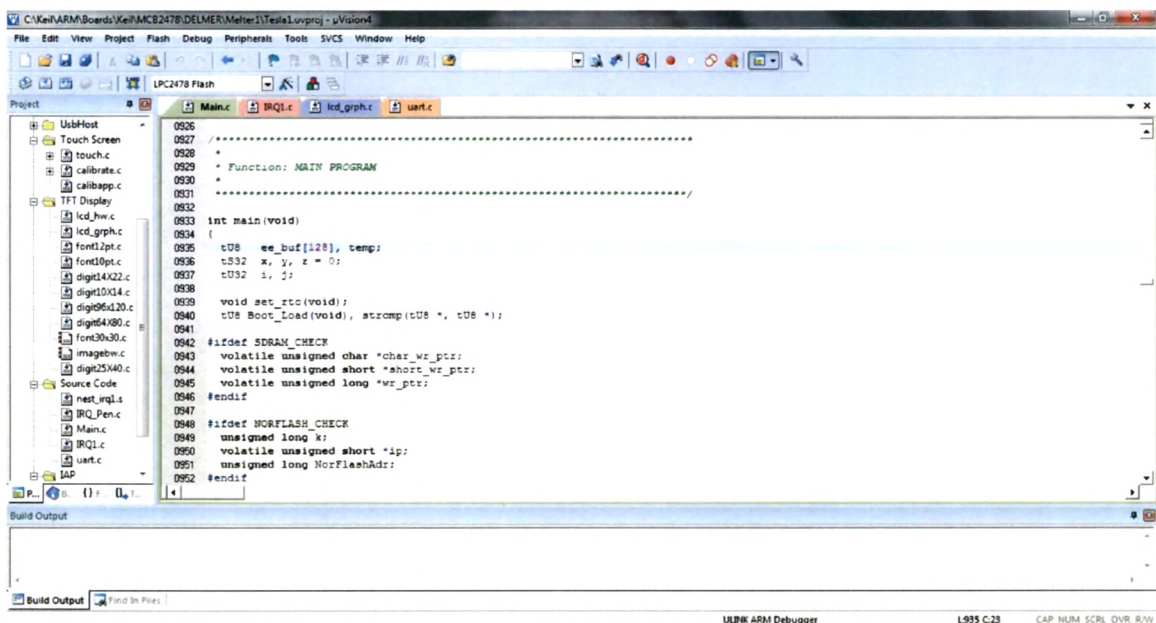

Figure A-5 Project Creation with Different groups
7. Add groups as shown in the Figure A-5 and add c files and distribute whole program into different groups & files.